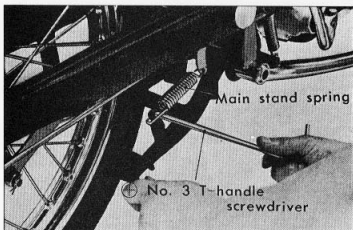

Figure 4-38. Installing stand spring
- (3) Reinstall the brake pedal spring and main stand spring. (Fig. 4-38)
- (4) Reinstall the muffler.
- (5) Reinstall the brake rod on the rear brake arm.